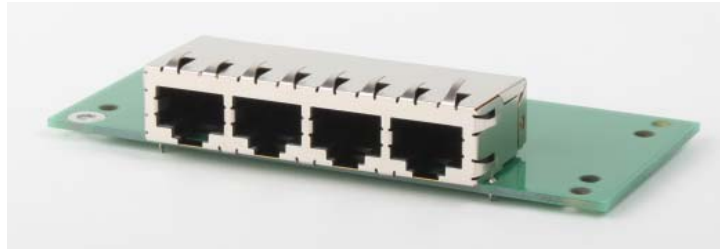

Figure 3: EP386 Panel
Figure 3 shows the STP15 and EP337 cable.
- **EP386 panel** – The EP388 panel, shown in Figure 3, contains four RJ45 connectors that are wired in parallel, making it useful when attaching up to four DT9847 Series modules together using the Sync Bus connector. Refer to page 79 for more information on using this panel.